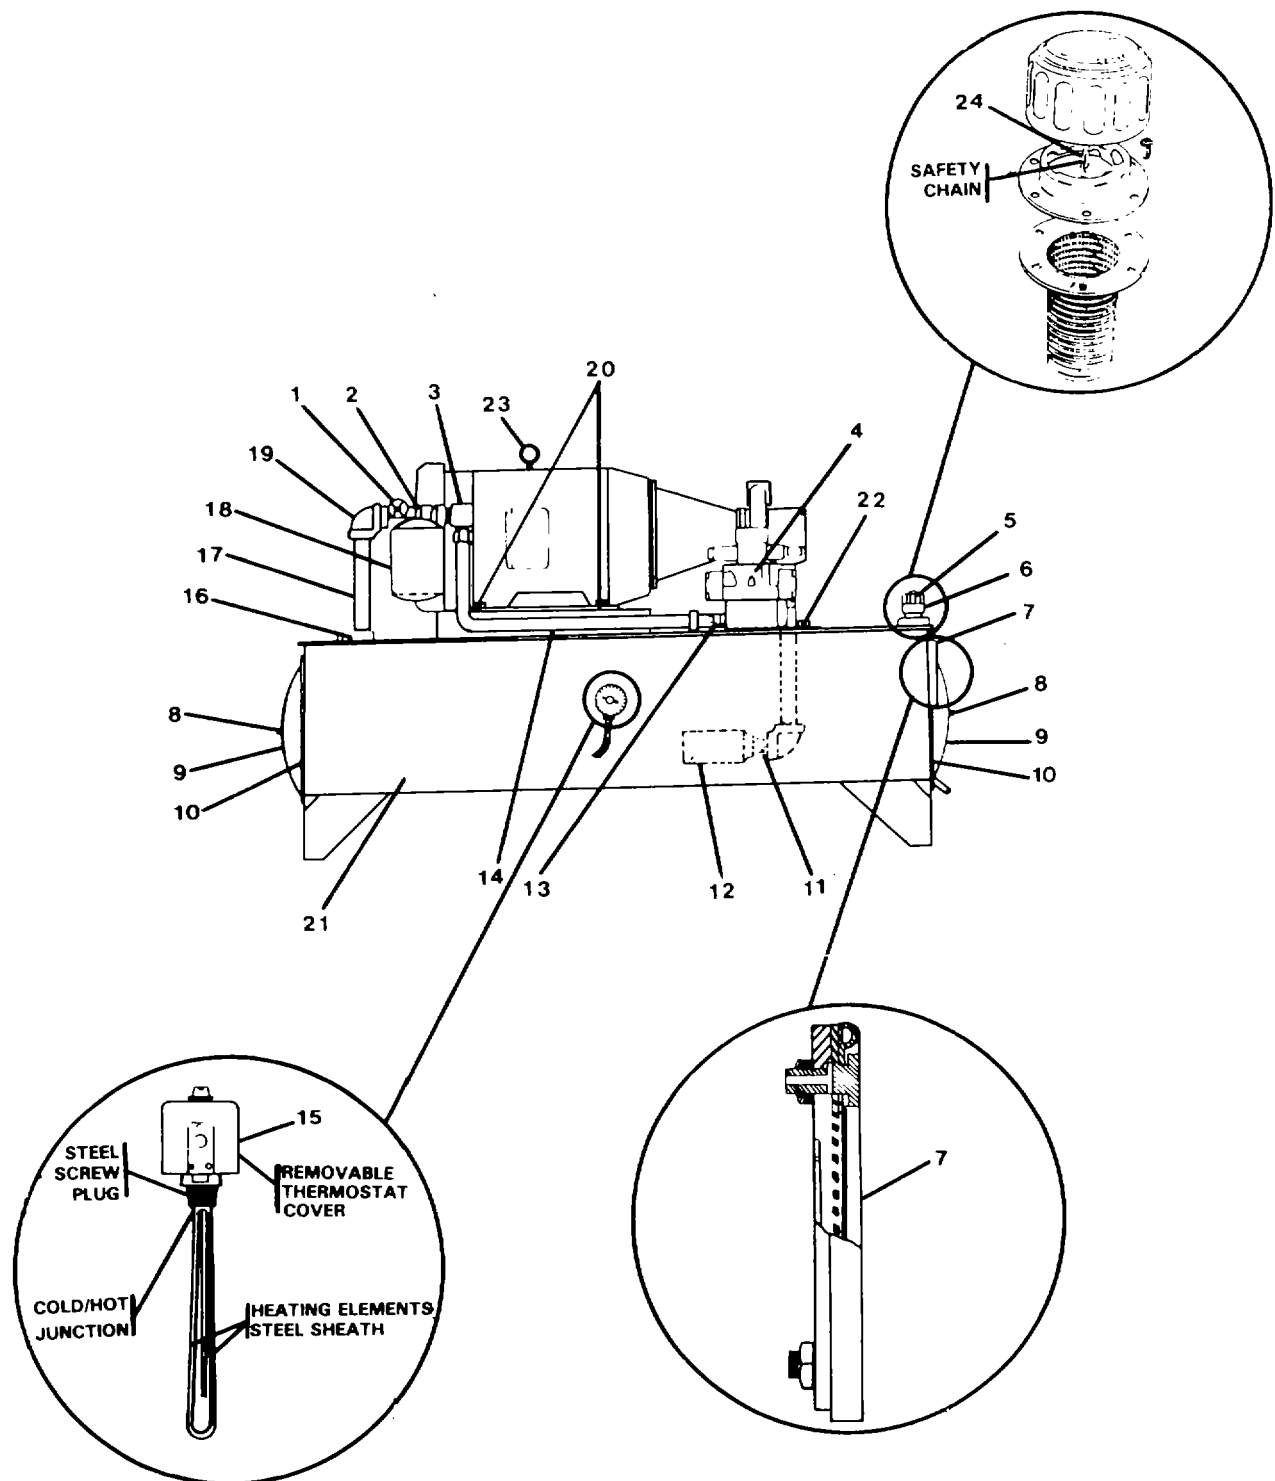

FIGURE 2-6. Hydraulic Power Pack Assembly.
2-17. Repair Hydraulic Power Pack Assembly. (FIGURE 2-6)
(1) Position liquid sight indicator (7) to the mounting holes on the reservoir.
(2) Secure indicator with attaching connectors. (See detail, FIGURE 2-6).
(1) Connect safety chain (24) securing the breather. (See detail, FIGURE 2-6).
(2) Replace breather (5).